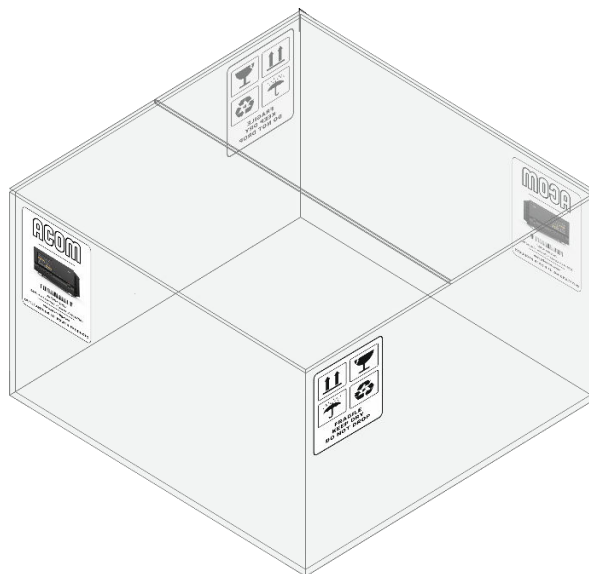
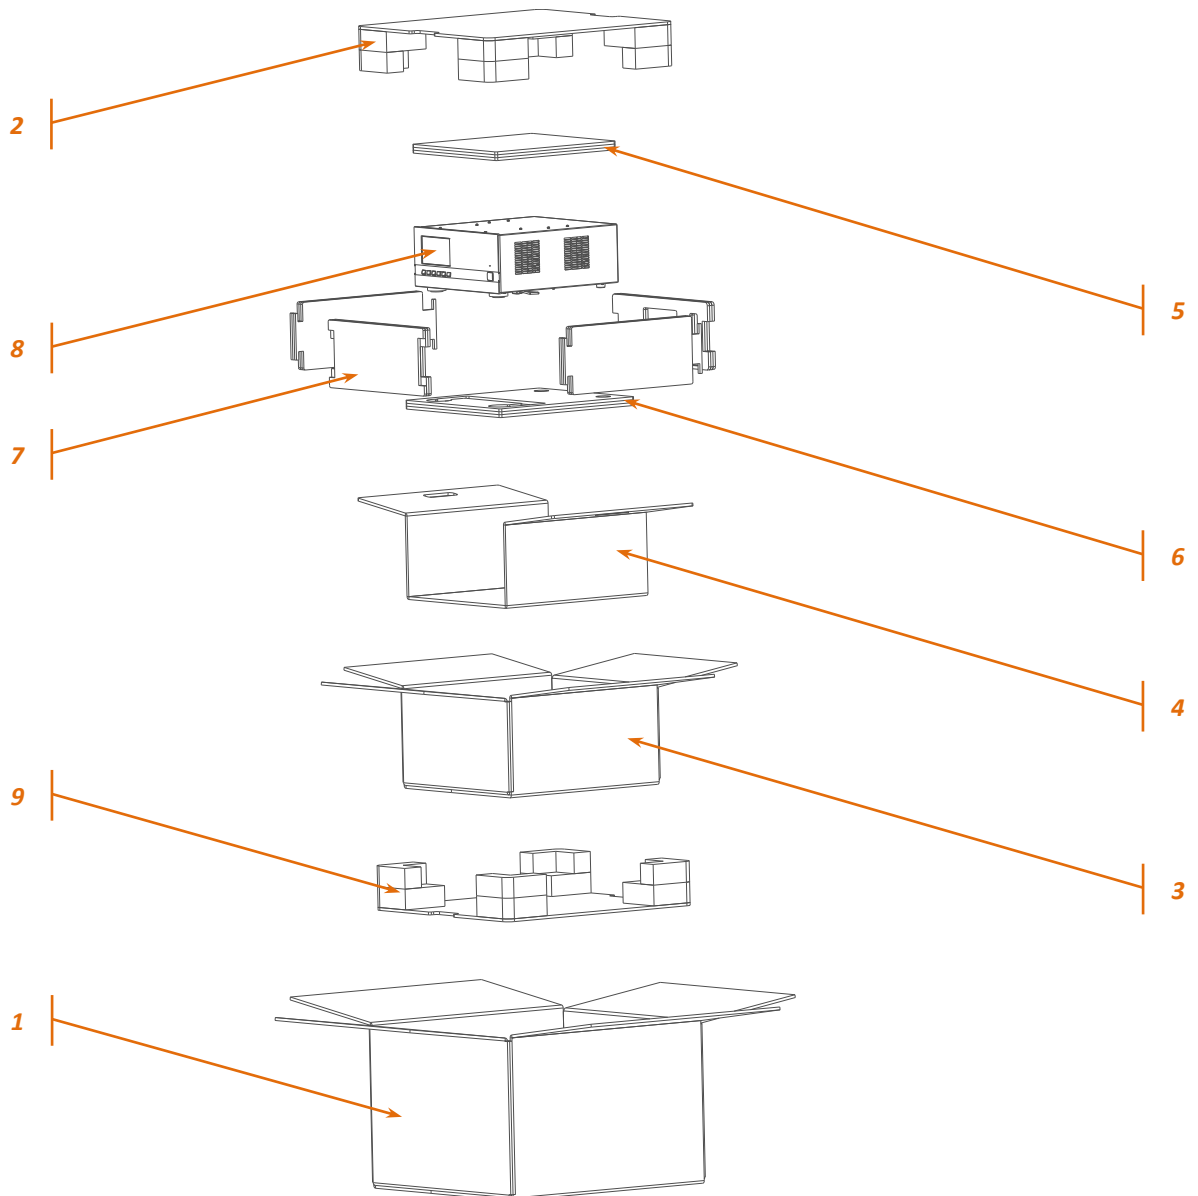

Figure 2-1 | Packaging carton (outside view)
Figure 2-2 | ACOM 700S packaged in a cardboard box
- Open the cardboard carton (see Figure 2-1 | Packaging carton \(outside view\) and Figure 2-2 | ACOM 700S packaged in a cardboard box, Pos. 1);
- Take out the top secure element (see Figure 2-2 | ACOM 700S packaged in a cardboard box, Pos. 2);
- Open the internal cardboard carton (see Figure 2-2 | ACOM 700S packaged in a cardboard box, Pos. 3);
- Take out the amplifier using handles of the middle secure element (see *Figure 2-2 | ACOM 700S packaged in a cardboard box*, Pos. 4);
- Take out the amplifier (Pos. 8) from the middle secure element and remove top, bottom, and sides flat secure elements (see *Figure 2-2 | ACOM 700S packaged in a cardboard box*, Pos. 5, 6 and 7);
(see *Figure 2-2 | ACOM 700S packaged in a cardboard box*, Pos. 9)